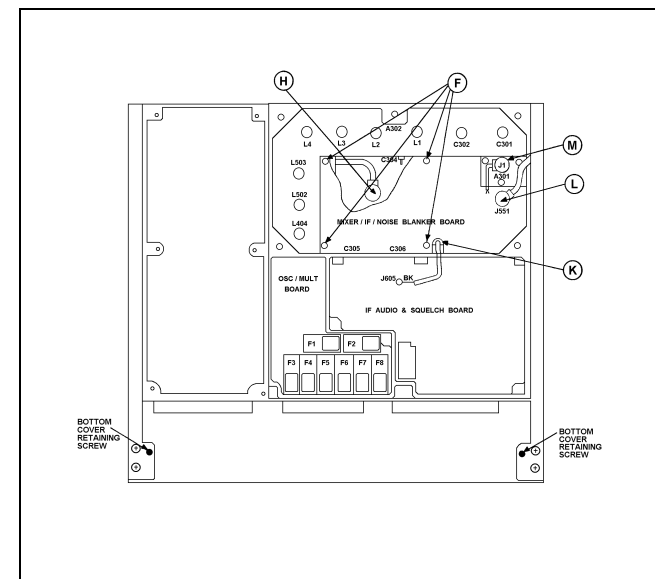

Figure 1 - Disassembly Procedure
2. Remove the top cover, then loosen the two bottom cover retaining screws and remove the bottom cover (see Figure 1).